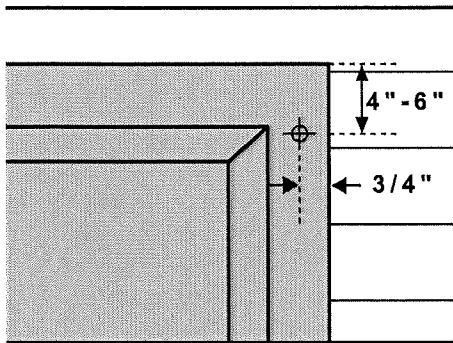

Figure 2
2. Clearly mark screw hole locations with a pencil. Screw holes should be marked 4" to 6" from the top and bottom of the stile, and within 3/4" above the point where the siding makes contact with the shutter (see Figure 2). This allows for maximum screw penetration.